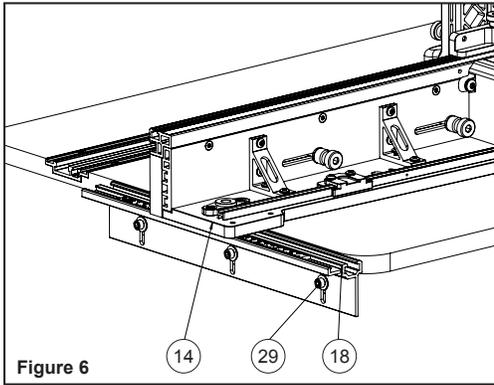

Figure 6
- c. Loosen the (3) $\frac{1}{4}$ "-20 x $\frac{5}{8}$ " socket head cap screws (part #29). Raise the fence track so that it is flush with the bottom of the fence. **See figure 6.**